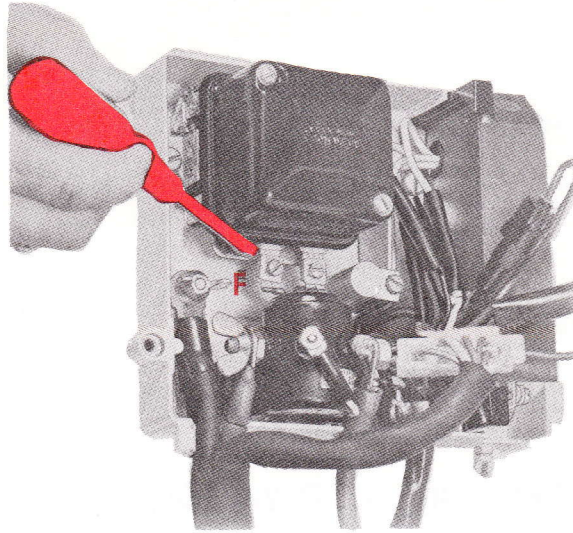

Figure 32
1. The AC generator can be check for output by shorting between the regulator "F" terminal and ground with a screwdriver. (Fig. 32).